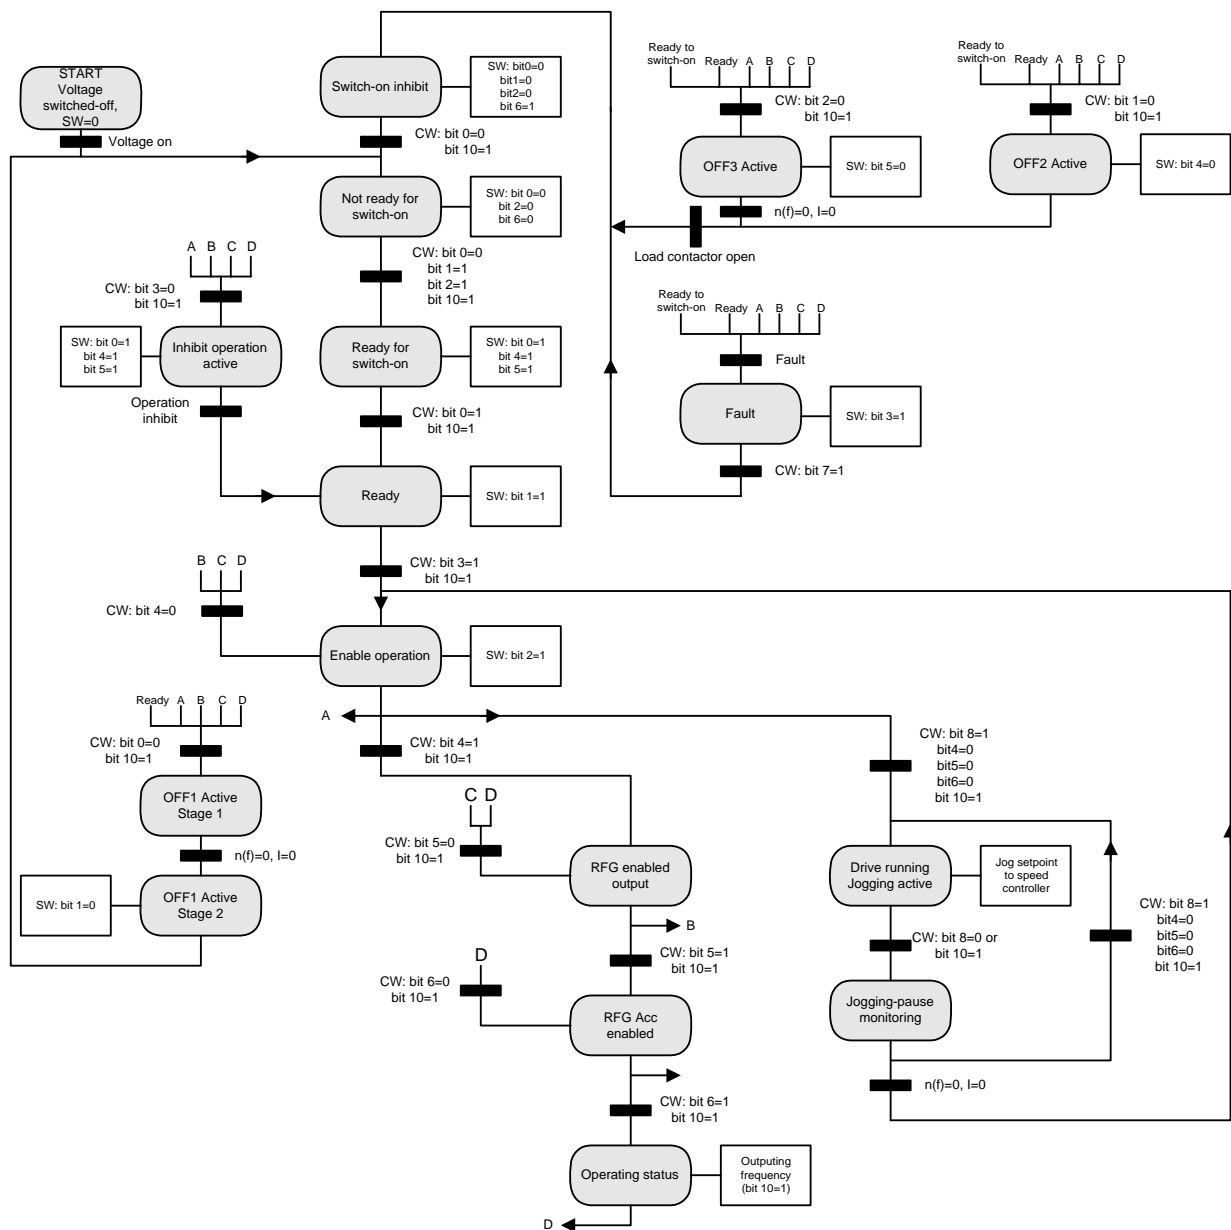

Figure 5 Profidrive state diagram
This section describes how to operate the inverter with the control-/status word. With the control word the Profidrive state-machine (Figure 5) is controlled, the status word is reflecting the state of the inverter.
*To start the inverter the Profibus state machine must be shifted in a correct way. This may be done in two steps. First the control word should be set to 04 06 (Enter *Ready to switch-on state*) and then to 04 7F (Enter *Operating state*). Refer to the state diagram in Figure 5.